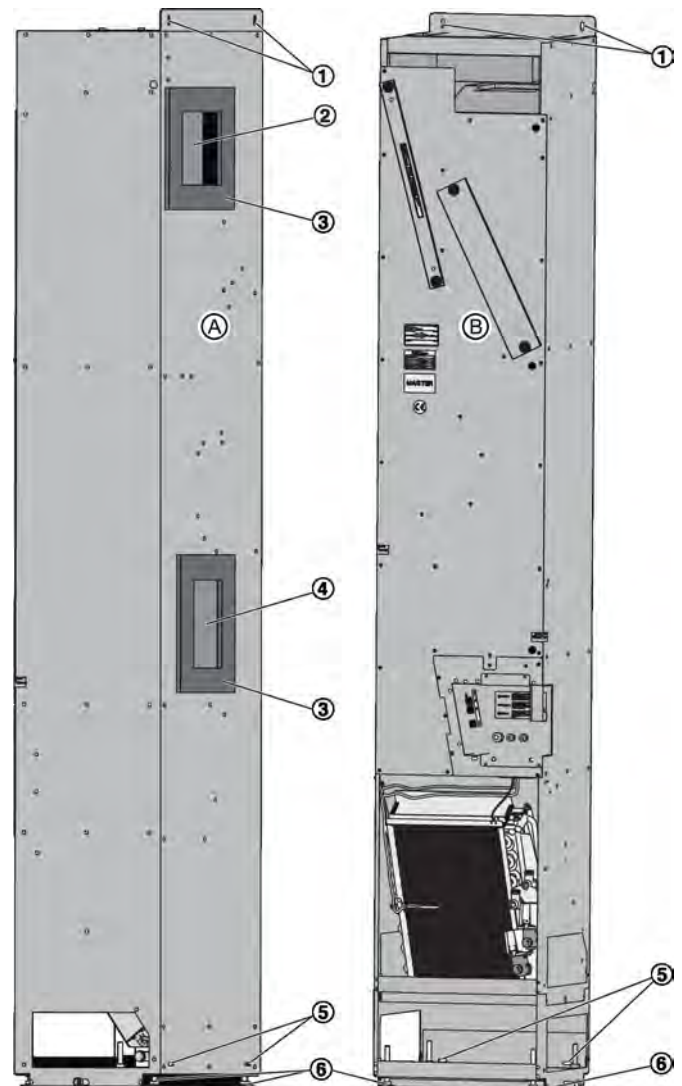

Fig. 8: Installation by example of SCHOOLAIR-V
1. ▶ Place the unit in such a way that the wall side (Fig. 8/A) faces the wall. The openings for the air (Fig. 8/2 and Fig. 8/4) must be aligned with the prepared openings in the external wall; adjust the feet if necessary.
2. ▶ Use suitable screws (∅ 6 mm) for the provided fixing holes (Fig. 8/1 and Fig. 8/5) to fix the unit to the external wall.